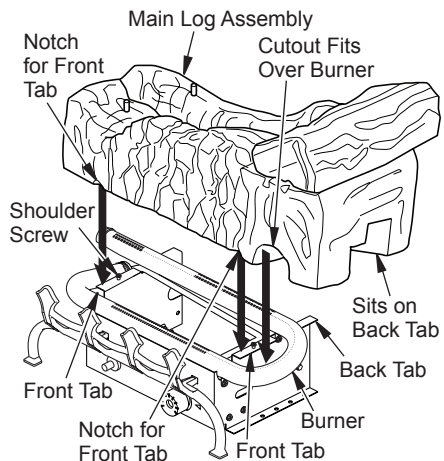

Figure 17 - Installing Main Log (#1)
1. Place main log assembly (#1) onto base. Cutout on front right will fit over burner (see Figure 17). Make sure back of log assembly is resting on back tabs of base. There are 2 small notches on log that fit onto front tabs.